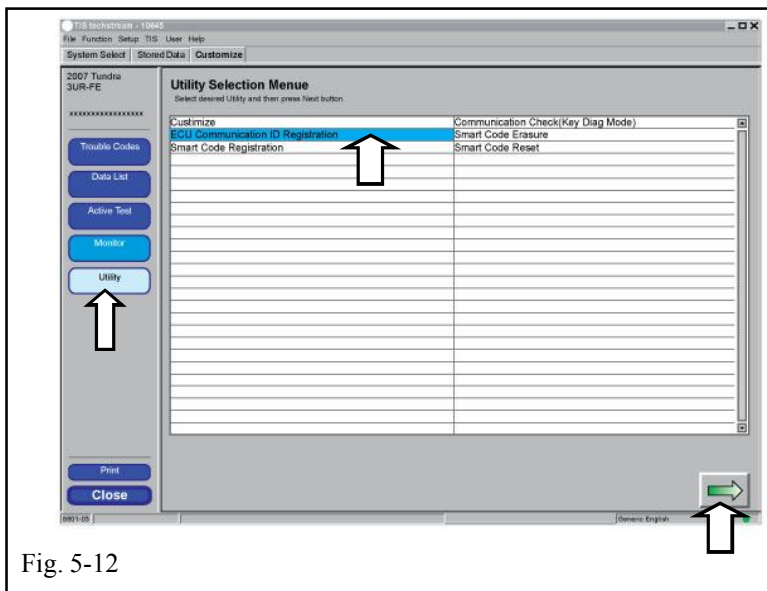

Fig. 5-12
- (v) Click “Utility”. (Fig. 5-12)
- (w) Select “ECU Communication ID Registration.” (Fig. 5-12)
- (x) Click . (Fig. 5-12)